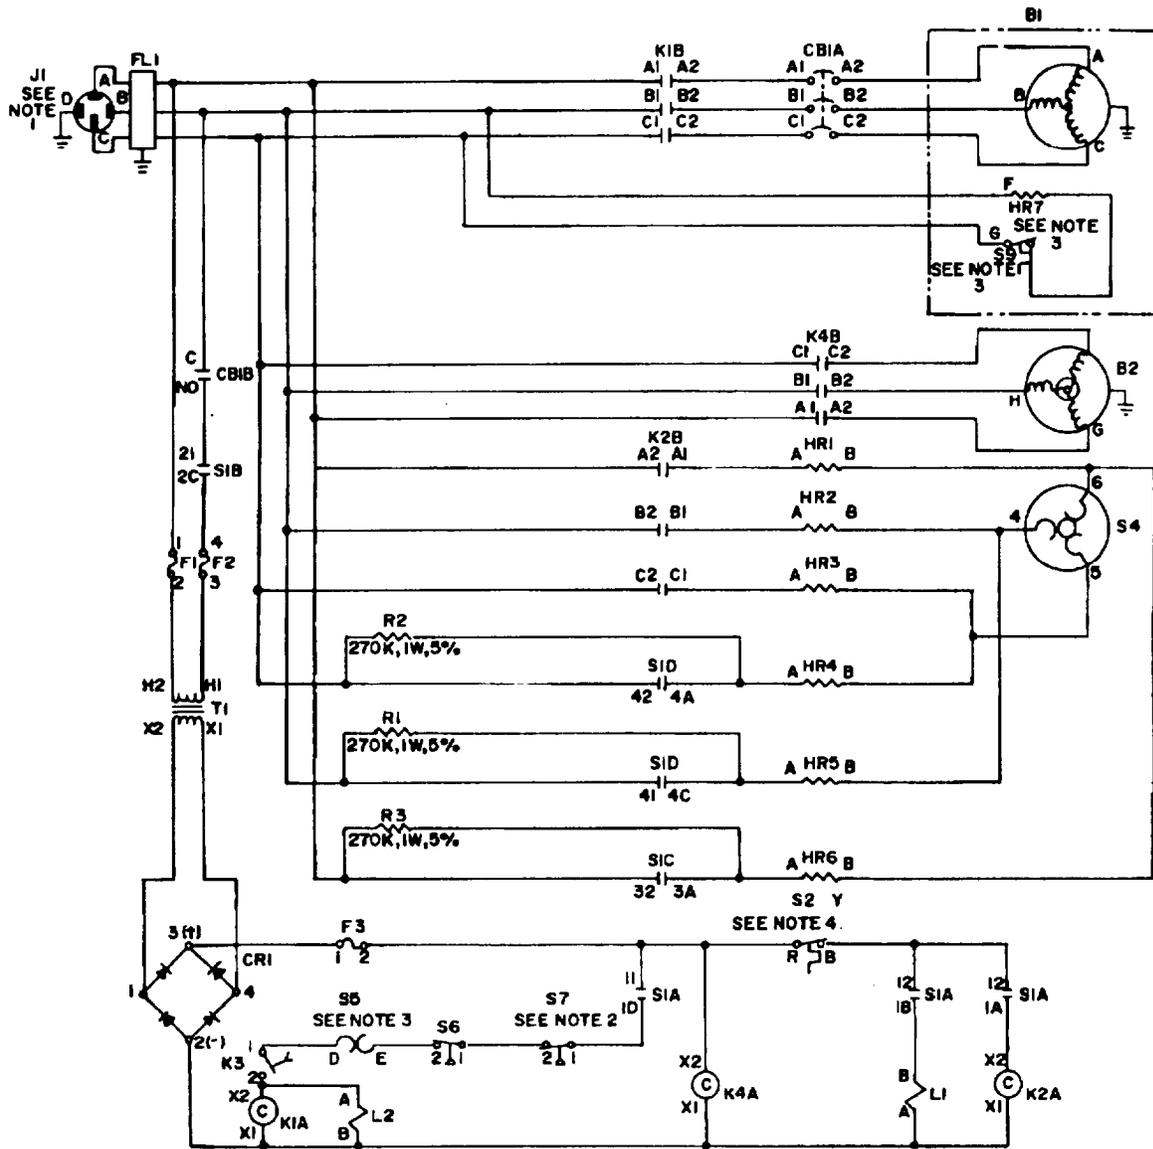

Figure 4-17. Electrical Schematic
(8) If fan blades turn away from grille, unit power cable is not connected properly. Exchange wires connected to pins A and B at power source connection and repeat steps (6) and (7) above.
(9) Check unit operation in accordance with para 2-6 and 2-7.
- i. See air conditioner wiring diagram, figure 4-16, and electrical schematic, Figure 4-17, for additional wiring information.